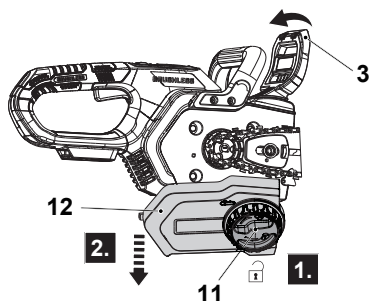

Fig. 1
**WARNING!** Always use a saw chain designed as "low-kickback" or a saw chain which meets the low-kickback requirements! A standard saw chain (a chain which does not have the kickback reducing guard links) should only be used by an experienced professional operator. Nevertheless, a low-kickback saw chain does not completely eliminate kickback! A low-kickback or "safety" chain should never be regarded as complete protection against injury! Therefore always use a low-kickback saw chain in conjunction with other kickback protection devices such as the front safeguard (chain brake lever) (3)!
**WARNING!** Pull the front safeguard (chain brake lever) (3) fully backward to disengage the chain brake.
2. Unscrew the locking wheel (11) anticlockwise and then remove it together with the chain saw cove (12) (Fig. 1).